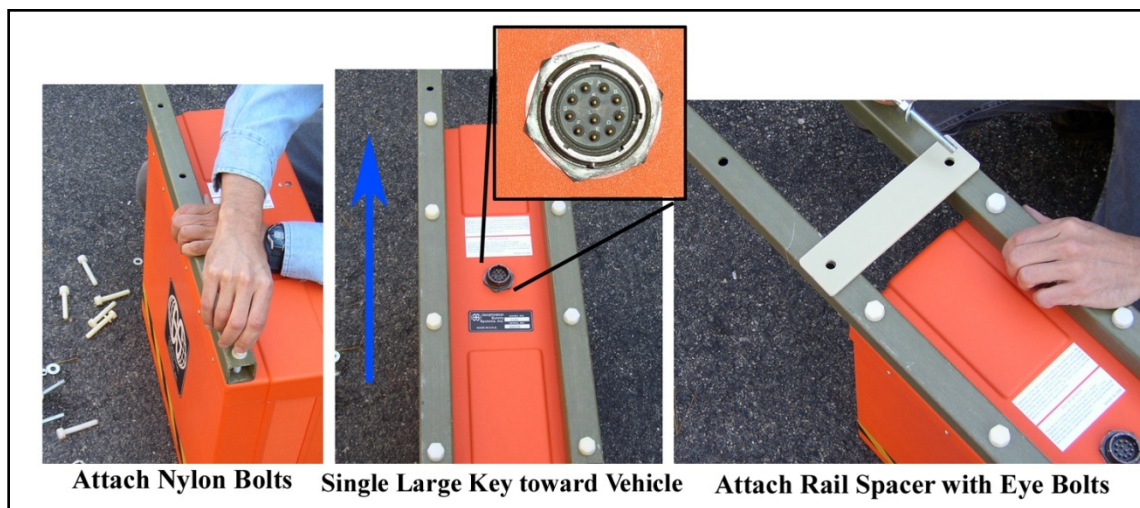

Figure 12: Attach rails.
Attach the fiberglass rails to the antenna using the eight (8) nylon bolts that came with your antenna. Be sure to only hand-tighten these, do not use a wrench. Make sure to position the antenna in the correct direction. If you look at the connector on the top of the antenna, you will see 5 key cutouts in the connector. The single, large one should point toward the vehicle. Next find the fiberglass rail spacer support that will be attached to the mount frame with plastic zip ties. Attach that to the rails with the eye bolts that were provided with your mount kit (Figure 12).